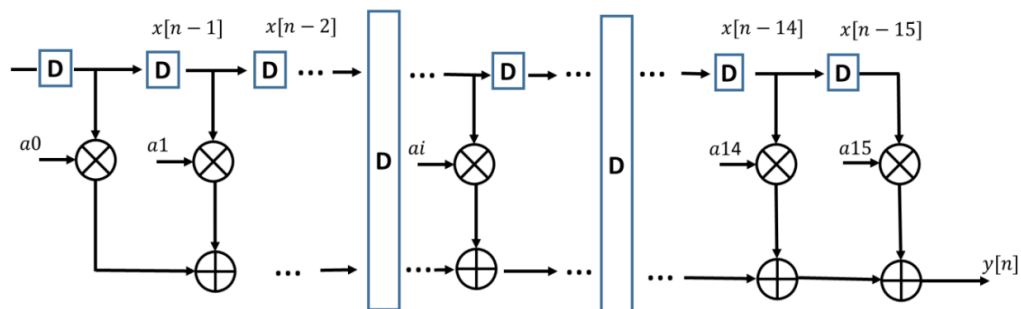

Figure 5. Pipeline architecture.
1. Finish a 3-stage pipeline architecture as Figure 5.